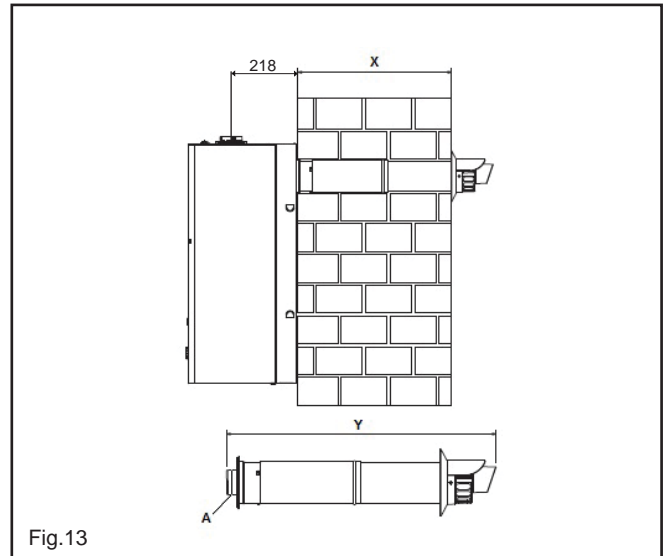

Fig.13
4.5.1.2 FITTING THE REAR FLUE (fig. 13) (rear flue outlet only)
NOTE The inner 60mm pipe of the rear flue terminal must be cut by 12mm at the point indicated (fig.13 pos. A).